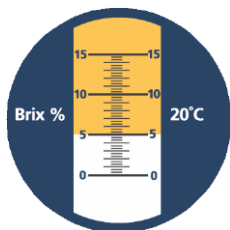

Figure 2. A Typical Refractometer Scale
Place a few drops of water (used for the mixture) between the plastic cover (6) and the prism (7). Hold the refractometer horizontally and point it at a light source. Look into the eyepiece (1) and adjust the scale calibrating knob (4) until the boundary line which separates the light and dark areas of the scale is aligned with the zero line on the scale. Figure 2 depicts a typical refractometer scale.
A 5.0 reading on the refractometer scale, as seen in Figure 2, multiplied by the refractometer factor of 0.9 yields a 4.5% mix concentration